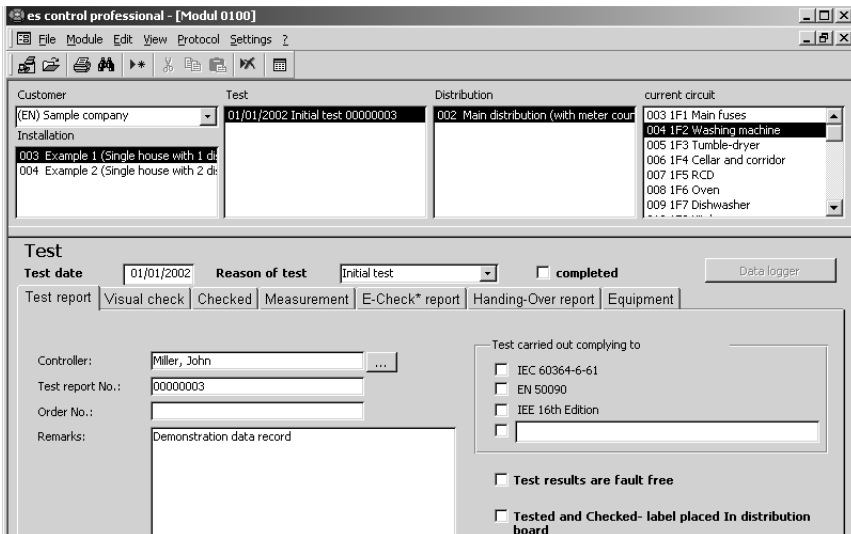

Figure 5.30: "View Test" window
- ▶ Select customer, installation, and test in the UNITEST es control 0100 professional software (sample customer, example 1, new installation), in compliance with Figure 5.30.
- ▶ Select the Customer, Installation, and Test in the UNITEST es control 0100 software (Sample customer, example 1, new installation) in compliance with Figure 5.30.